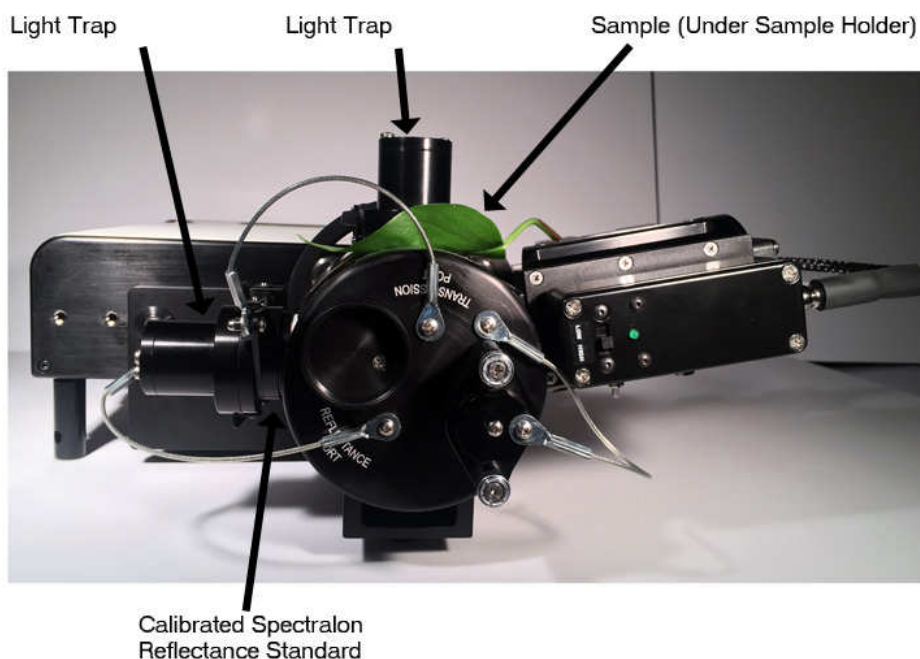

Figure 15: Calibrated standard reflectance measurement configuration
2. Place each of light traps onto the backs of the sample holders as shown below in Figure 15. Twist clockwise to thread the light traps onto the holders.
3. Pull back on the light trap / sample holder assembly and place the tethered calibrated Spectralon reflectance standard between the sphere reflectance port and sample holder, as shown below in Figure 15. The spring-loaded arm holds the sample in place.
4. Place the sample (the leaf) in the sphere transmission port sample holder as shown below in Figure 15.